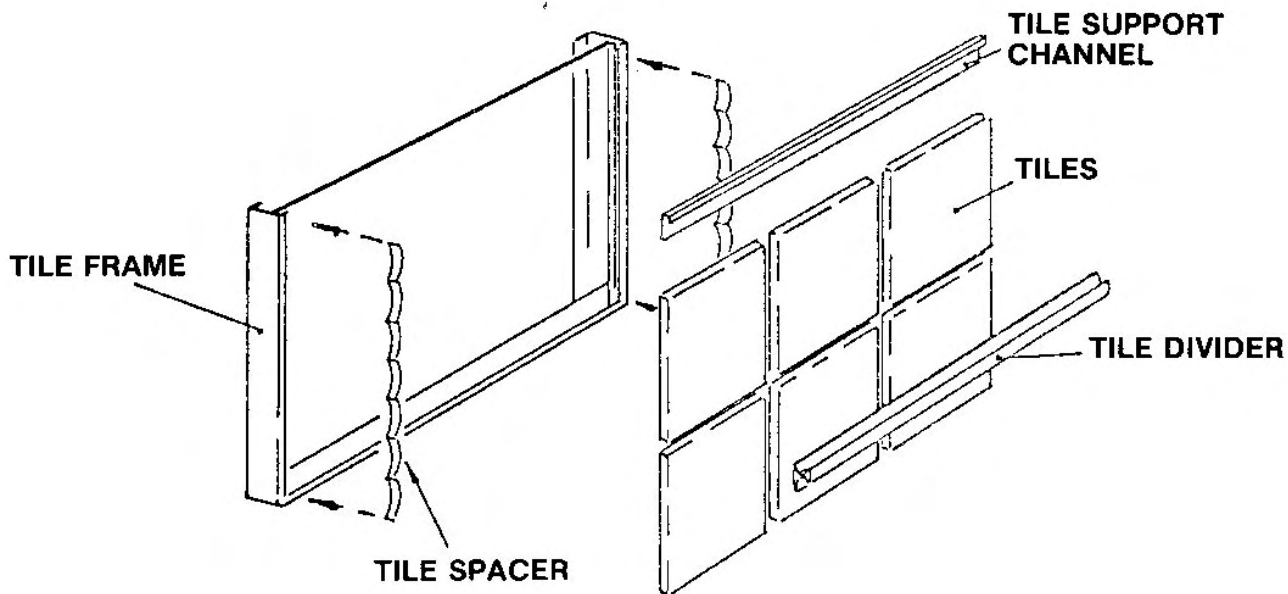

Fig. 5
- (d) Fit the tile support channels onto the top row of tiles, see Fig. 5.